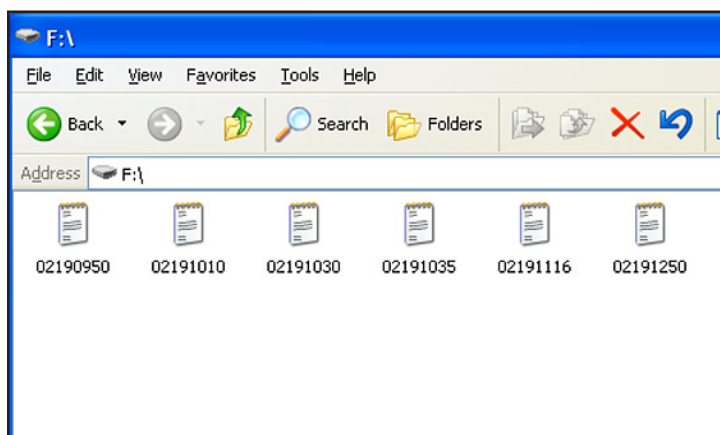

Figure 55: List of Log Files
- Click on the Removable Disk icon and a window similar to *Figure 55* below opens. The available log files are listed in the window.